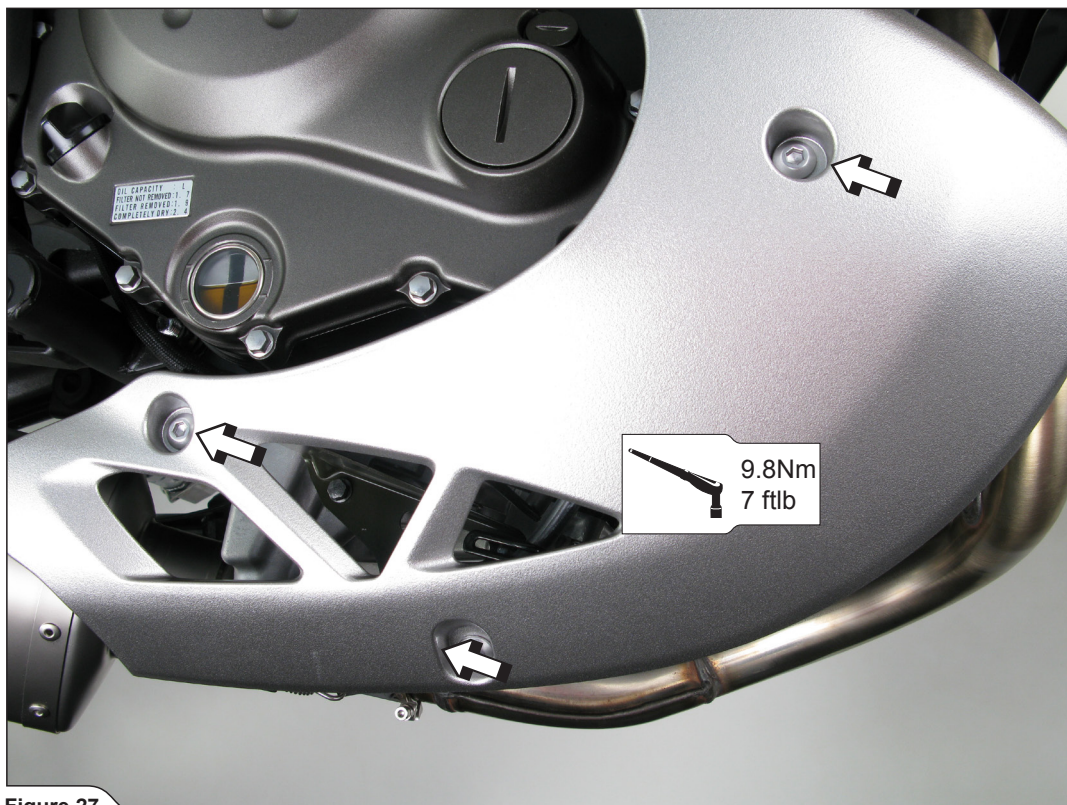

Figure 27
11. For ER-6 Versys: Reinstall the lower part of the cowling in the reverse order from the order in which it was removed (Figure 27).